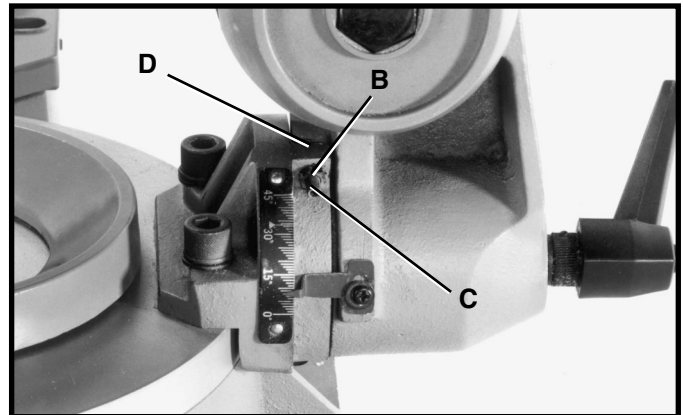

Fig. 22
4. If an adjustment is necessary, loosen locknut (B) Fig. 22, and turn screw (C) until other end of screw (C) contacts casting (D) when blade is 90 degrees to the table. Then tighten locknut (B).